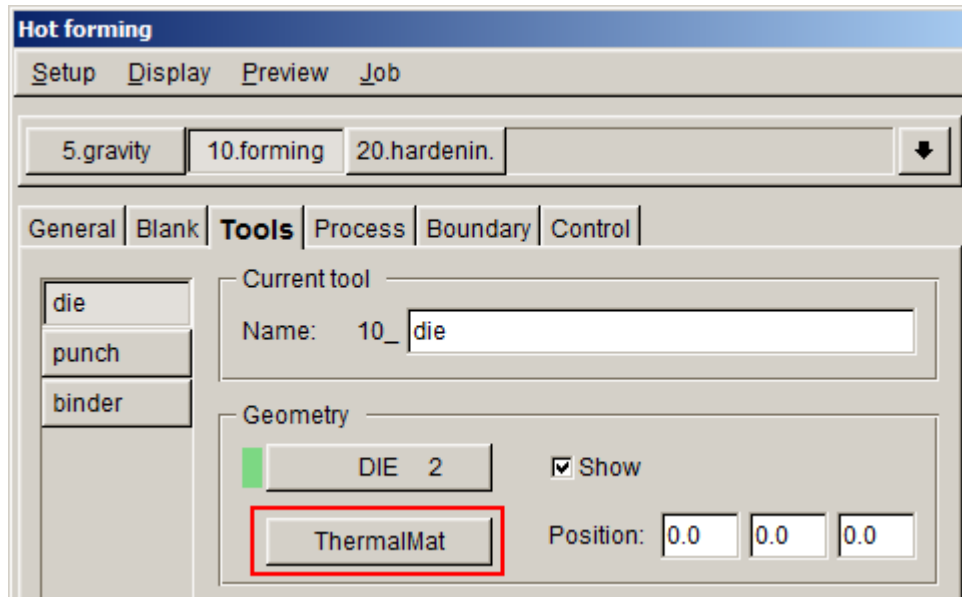

Figure 1.20 Thermal material definition of tools
1. Click the ThermalMat button, as illustrated in Figure 1.20.